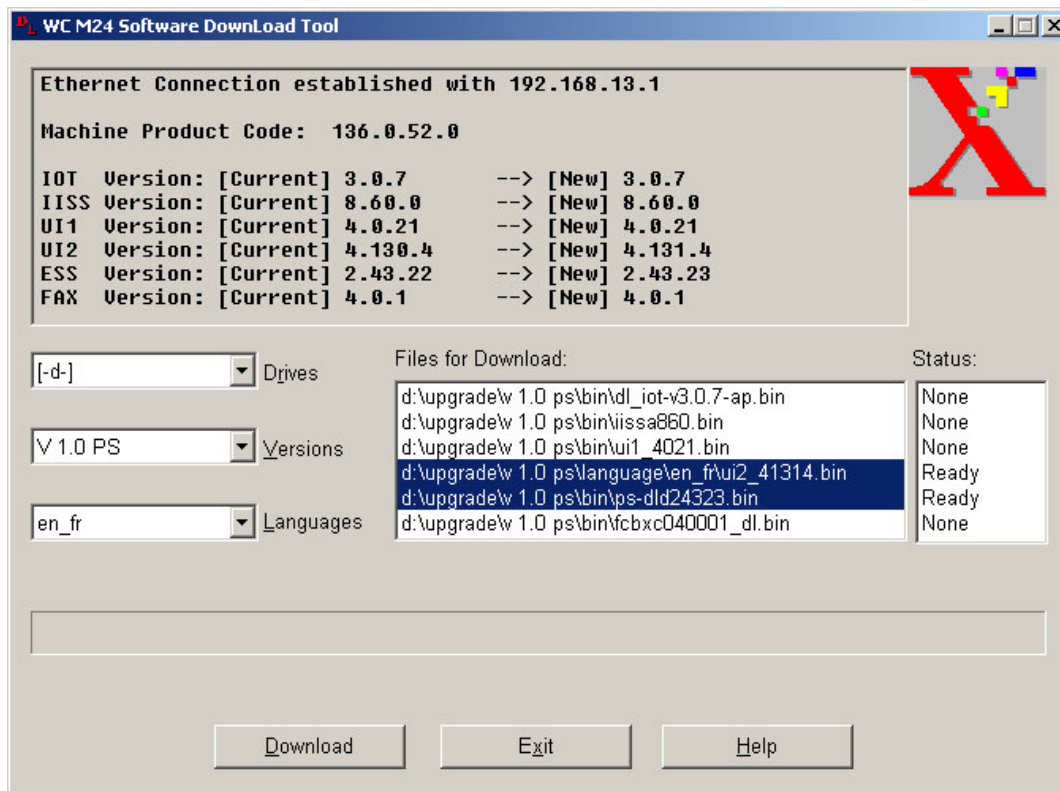

Figure 1 Download Tool Window
- ___ 19. The WC M24 Download Tool window will appear as in Figure 1.